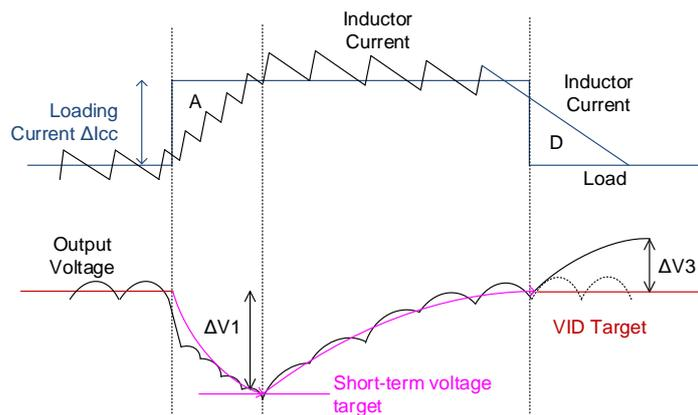

Figure 20. Zero Load Line with AC-Droop Control
Figure 20 shows the condition with AC-droop control. While loading occurs, the controller temporarily changes the VID target to the short-term voltage target. The short-term voltage target is related to the transient loading current ΔI_{CC} and can be represented as follows:
Where the V_{CS} is the current sensing signal from DCR sensing or SPS current sensing. For DCR sensing, $V_{CS} = I_{CC_MAX} \times DCR$. The current gain (AI) can be set by the Pin Setting of AI Gain. Users can select AI gain according to Table 8 to set the desired short-term voltage target. The short-term voltage target reverts to the VID target slowly after approximately $100\mu s$. The short-term voltage target can help the inductor current not to exceed the loading current too much, and then the ring back can be suppressed. As shown in Figure 20, the overshoot amplitude is reduced to only $\Delta V3$.